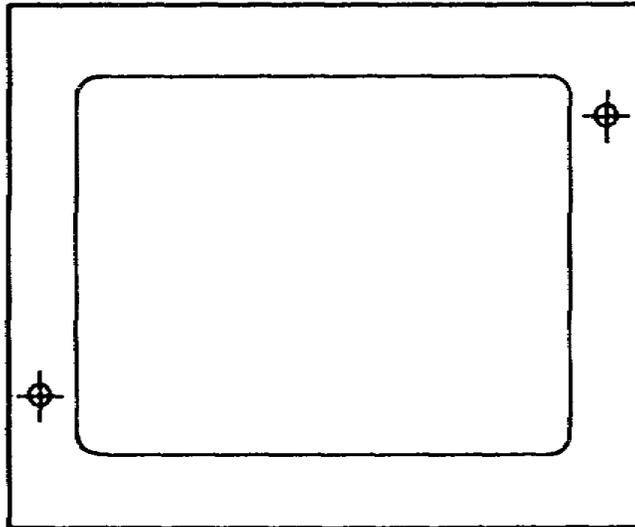

Figure 2-3. Master register marks
(2) Prepare the master with at least two registration marks. Locate the register marks in opposite corners of the master. Position the marks so that they lie outside of the aperture form so that they do not project onto the screen (see figure 2-3).